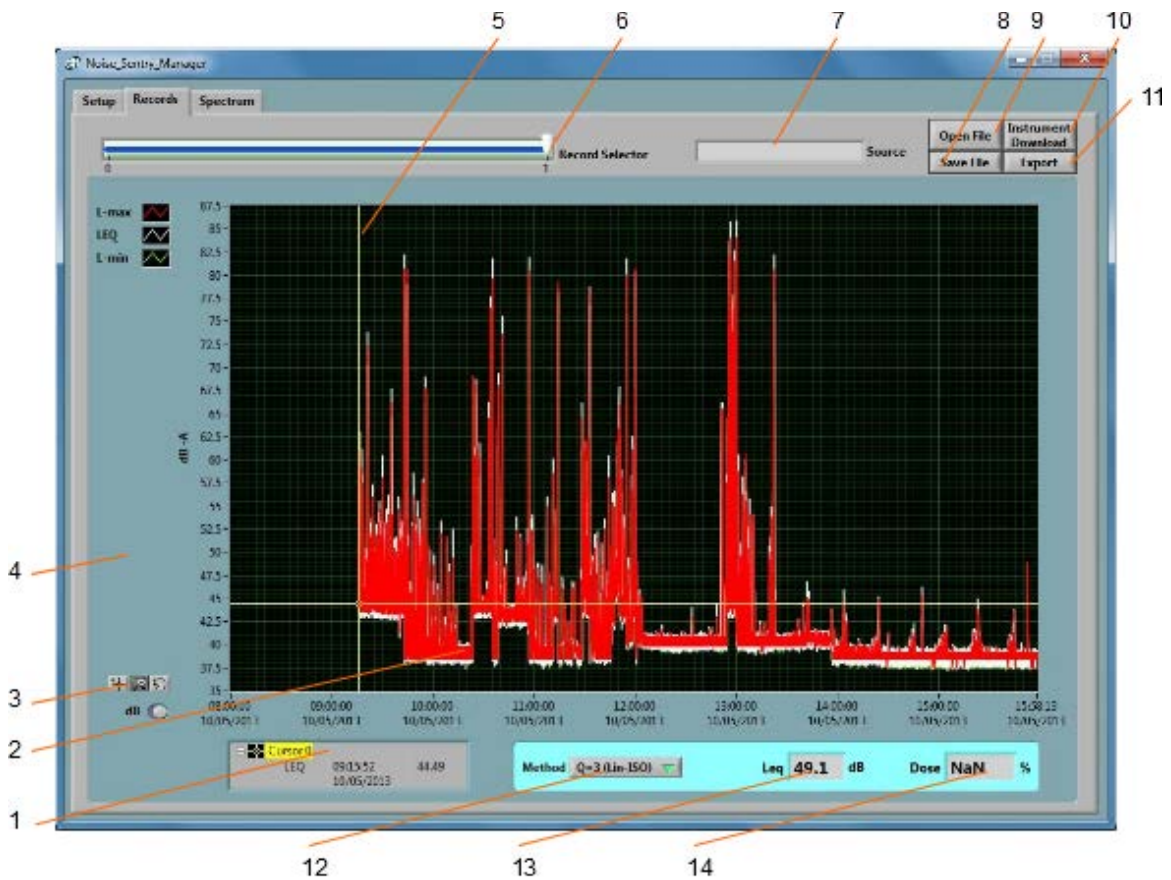

Figure 5 Record Tab
- **The Records Tab:** Is used to download, display and export the data from the Noise Sentry RT (see Figure 5).